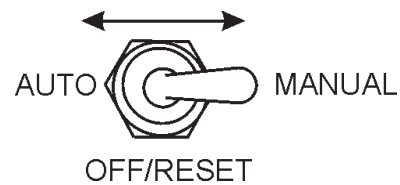

Figure 42. MPEC Control Switch (Manual Position)
8. Place the **MPEC Control Switch** in the **MANUAL** position to start the engine (Figure 42).